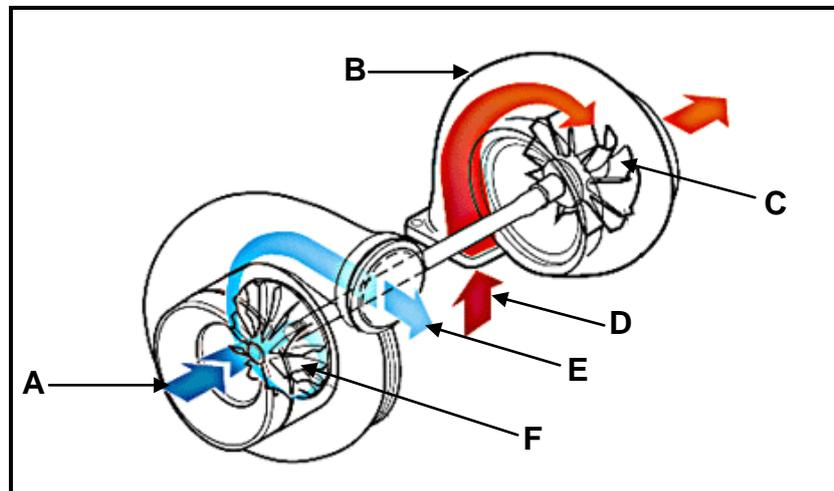

FIGURE 10.2
10.4 A large number of trucks make use of turbochargers to enhance their performance. FIGURE 10.2 shows a turbocharger arrangement.